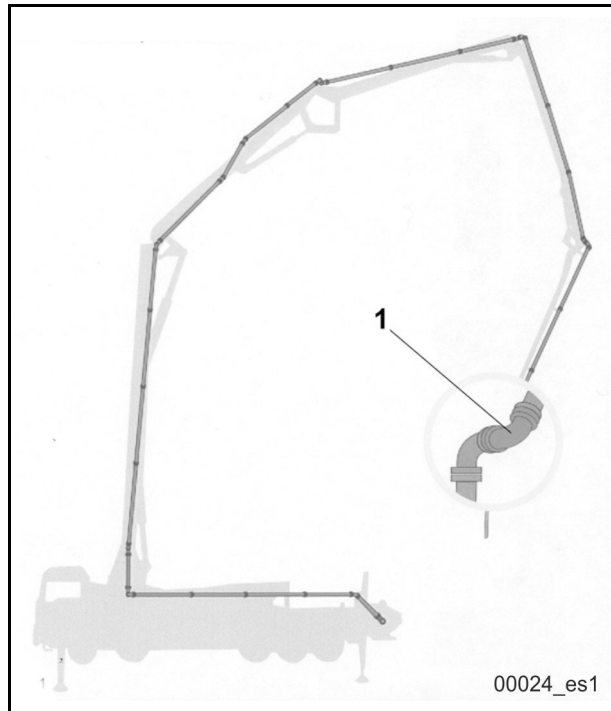

Fig. 355
The impact bend (1) (**Fig. 355**) is the penultimate bend in the boom pumping line.